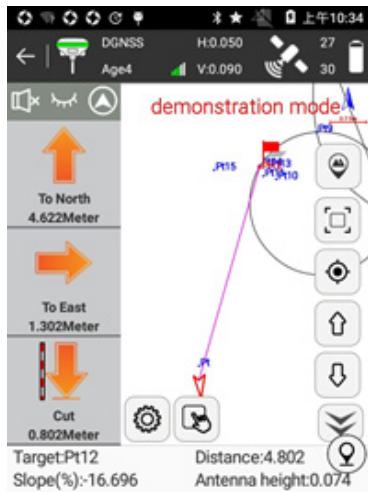

Figure 5.4-5
1. Select a point to stakeout in the points library, then press [OK] to enter stakeout interface as shown in Figure 5.4-5. Red flag is target stake point. Circle is current position of receiver. Arrow is direction indicator, indicating the direction of current receiver. When the arrow direction is same with the direction to the target point, please move in this direction, then you can reach the target point.